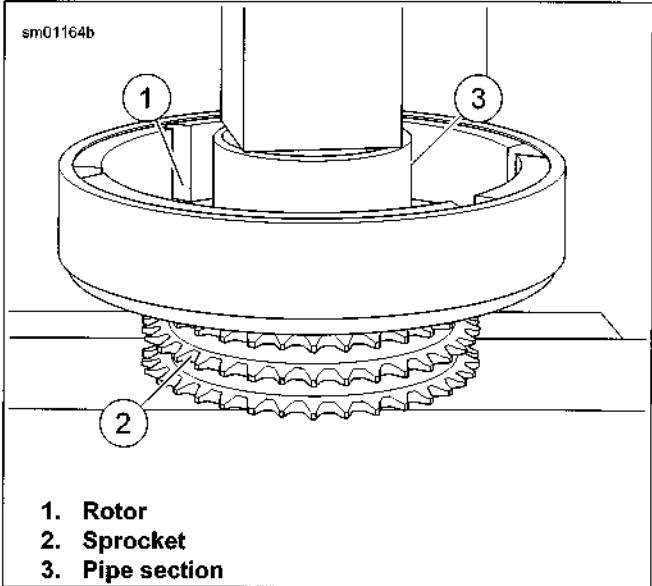

Figure 6-89. Pressing Rotor onto Sprocket
1. See Figure 6-89. Position rotor (1) on sprocket (2). Align holes in sprocket with holes in rotor.
3. Position a section of pipe (3) with an inside diameter larger than the sprocket mounting hub over center of rotor.